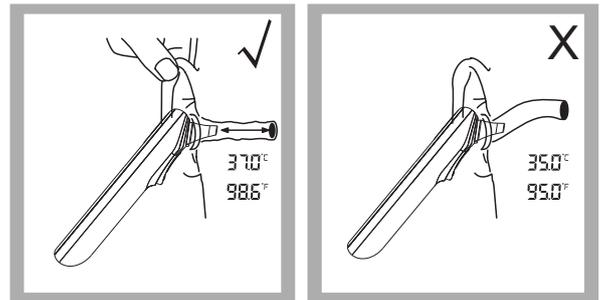

Figure 3
3. Insert the probe along the ear canal as deep as possible into the ear as depicted in Figure 3. Then press the *Test BUTTON* once to start the measurement. A long beep will sound approximately 1 second after the *Test BUTTON* is activated. This signals the end of the process as results are displayed on the LCD screen.